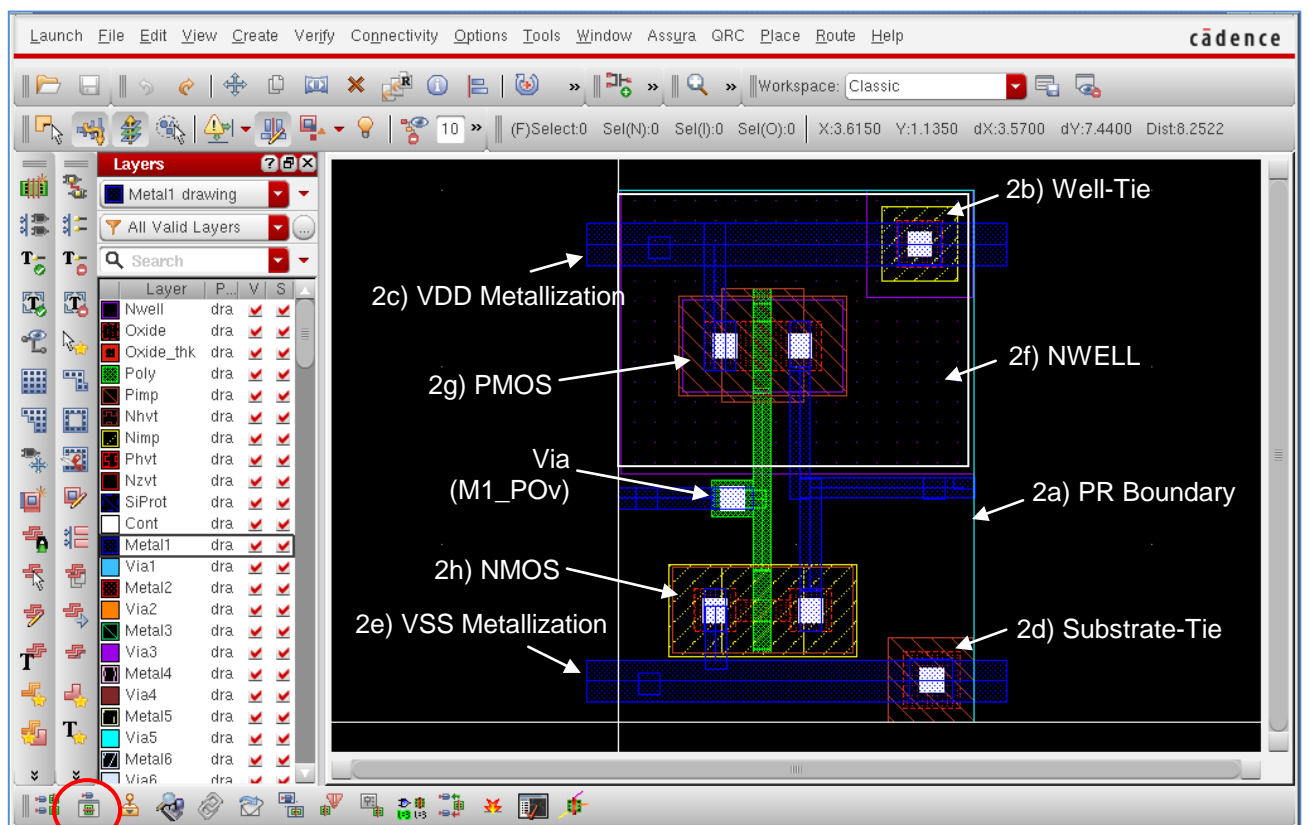

Figure Lab5-4 : Mask Layout Design Environment
2. Create Layout (Figure Lab5-4)
- (i) Click on the **Generate Selected From Source** icon (circled in Figure Lab5-4)